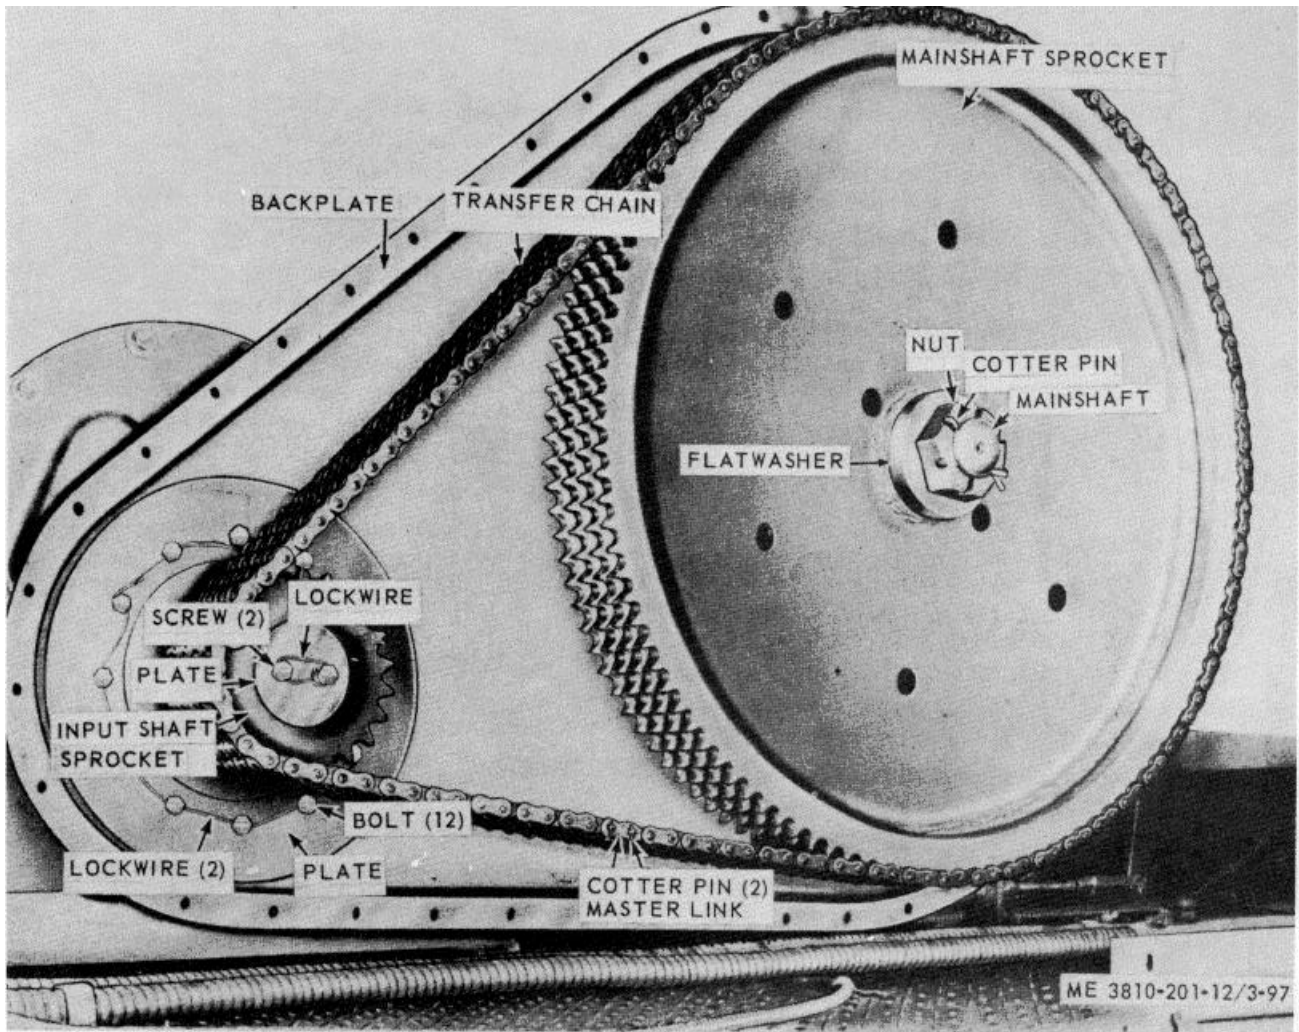

Figure 3-97. Transfer chain, removal and installation.
(1) Remove transfer chain case cover (para 3-112).
(2) Remove two cotterpins (fig. 3-97) and master link from chain, then remove transfer chain from input and main shaft sprockets.
(3) Install in reverse order.
- (1) Remove transfer chain case cover (para 3-112).
- (2) Remove transfer chain (para 3-113).
- (3) Remove lockwire from two screws in input shaft (fig. 3-97).
- (4) Remove two screws and plate, then remove input shaft sprocket from input shaft.
- (5) Install in reverse order.